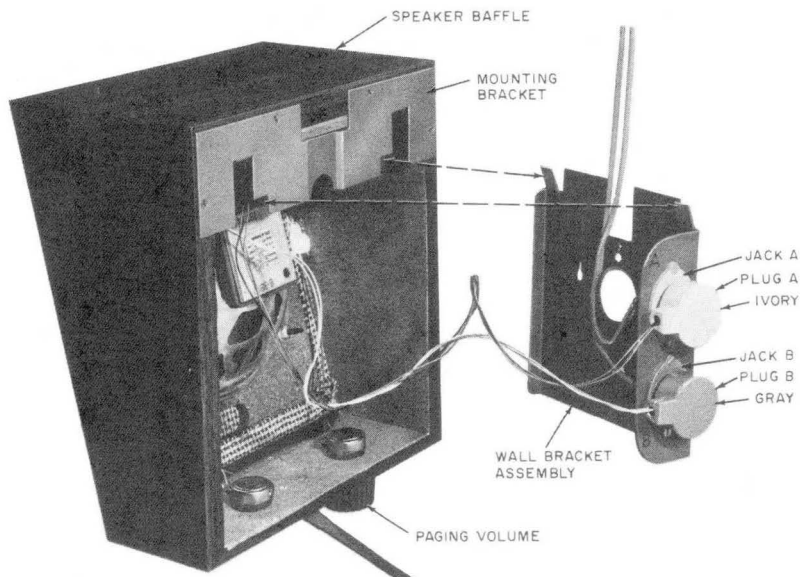

Fig. 23—109A Loudspeaker Set With Wall Bracket Assembly
(1) Mount the wall bracket assembly (Fig. 23 and 24) at the desired location. This assembly is mounted directly to a flat surface or an outlet box. Use appropriate fasteners per BSP 080-720-105.
(2) If music is provided, install the 33A voice coupler as described in 3.14(b).
- (1) Connect +V, COM, and DSS to jack A (ivory) of the wall bracket assembly (Fig. 23) per Table F.
- (2) If music is provided, connect terminals 5 and 6 of the 33A voice coupler to terminals R and G of jack B (gray) of the wall bracket assembly (Fig. 23) using inside wire.
- (3) Connect plug A of loudspeaker into jack A of wall bracket assembly and plug B into jack B, ivory and gray to gray, respectively (Fig. 23).
- (4) Slip the speaker baffle mounting bracket over the mounting clips on the wall bracket assembly and pull the speaker down until it is firmly held (Fig. 23).